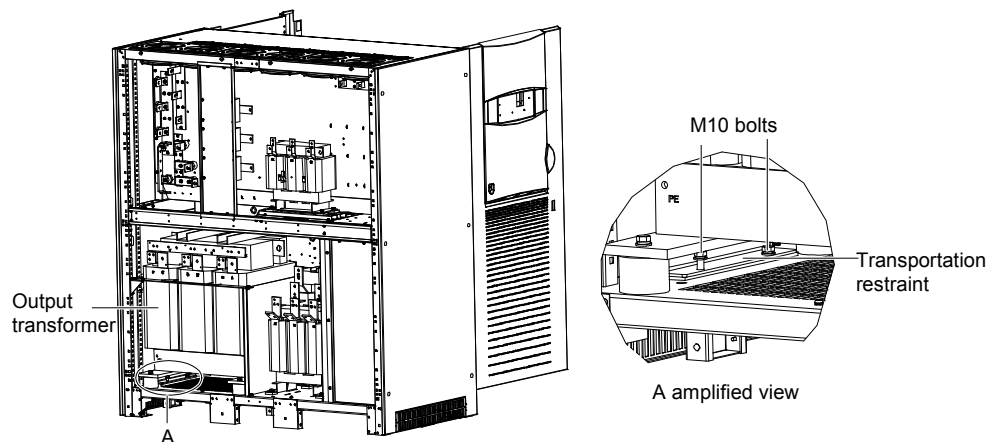

Figure 4 Removing the output transformer transportation restraints
1. Remove the back panel of the cabinet to reveal the output transformer, as shown in Figure 4. Retain the screws.
2. There is a transportation restraint respectively on the right side and left side at the bottom of the output transformer. Remove the two M10 bolts of each transportation restraint, as shown in Figure 4.